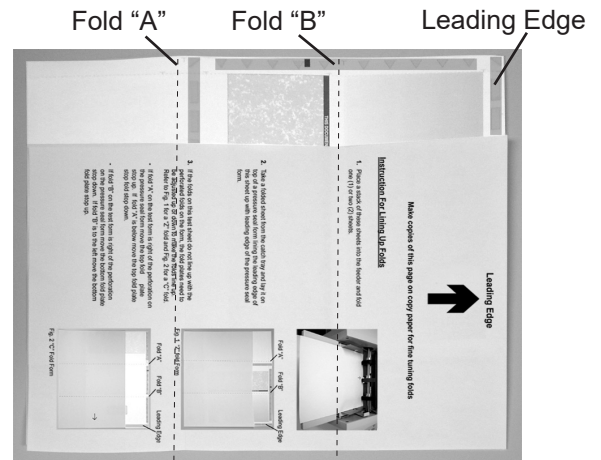
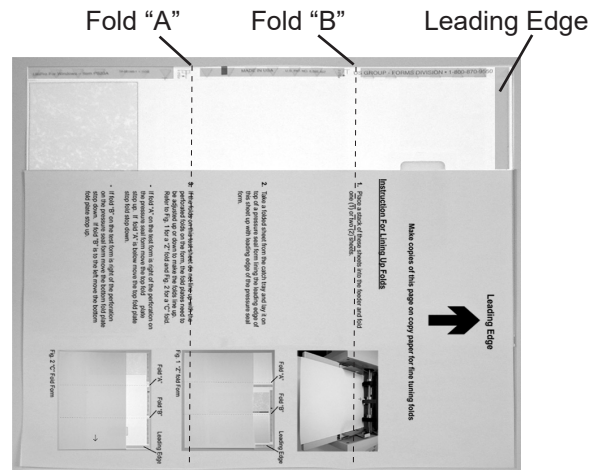

Fig. 35 "Z" fold Form
Fig. 36 "C" Fold Form
1. Place a stack of these sheets into the feeder and fold one (1) or two (2) sheets.
3. If the folds on this test sheet do not line up with the perforated folds on the form, the fold plates need to be adjusted up or down to make the folds line up. Refer to Fig. 35 for a "Z" fold and Fig. 36 for a "C" fold.